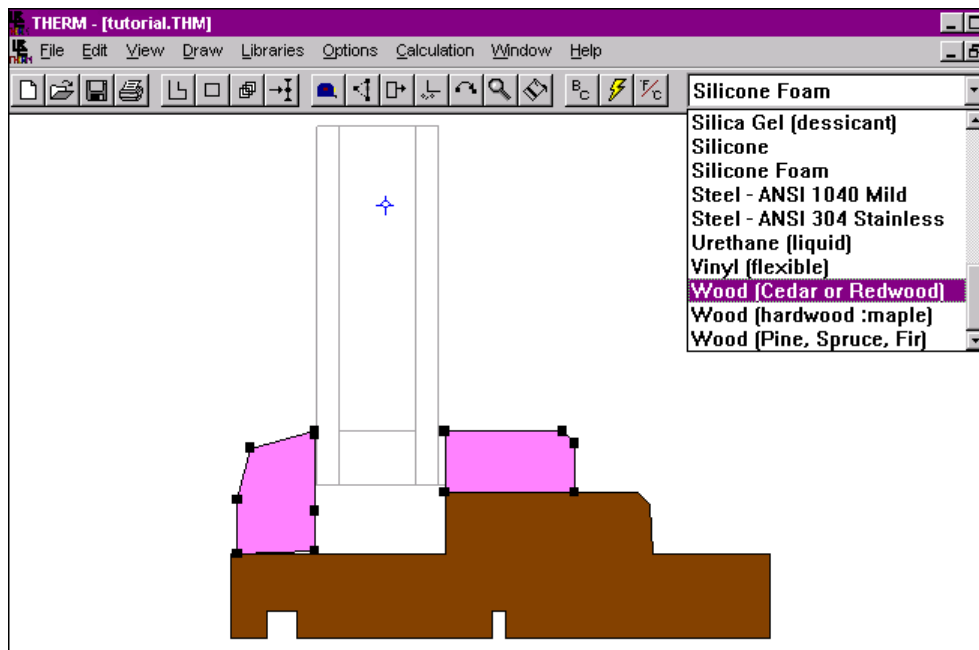

Figure 8-10. Select multiple polygons by holding the **Shift** key down while clicking on multiple polygons.
- Select the polygons representing the interior and exterior stop (you can select both of them by holding the **Shift** key down and clicking the left mouse button on each polygon), and select **Wood (Cedar or Redwood)** from the **Materials** list, as shown in Figure 8-10.